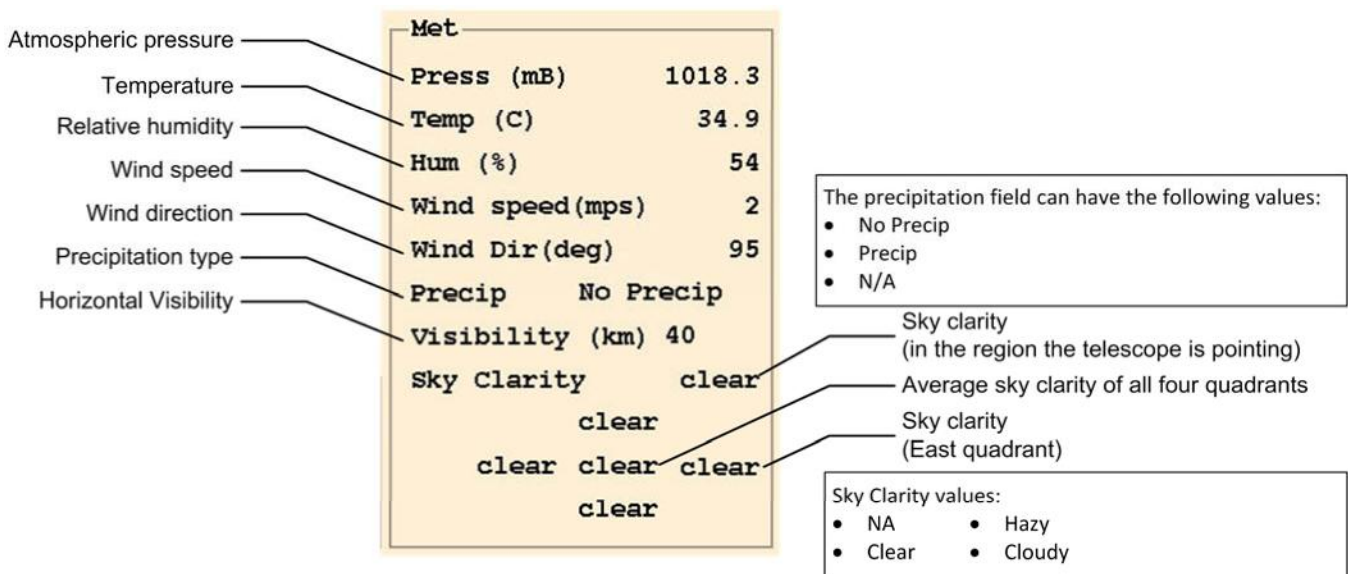

Figure 4-12: Labeled diagram of a portion of the Ratgui main window showing weather information
4. **Verify Weather Measurements** – Ensure that the meteorological data displayed accurately reflects current weather conditions outside the shelter (Figure 4-12). Note that if the values for Sky Clarity are NA, then most likely the Sky Camera software on the Camera computer is not running.